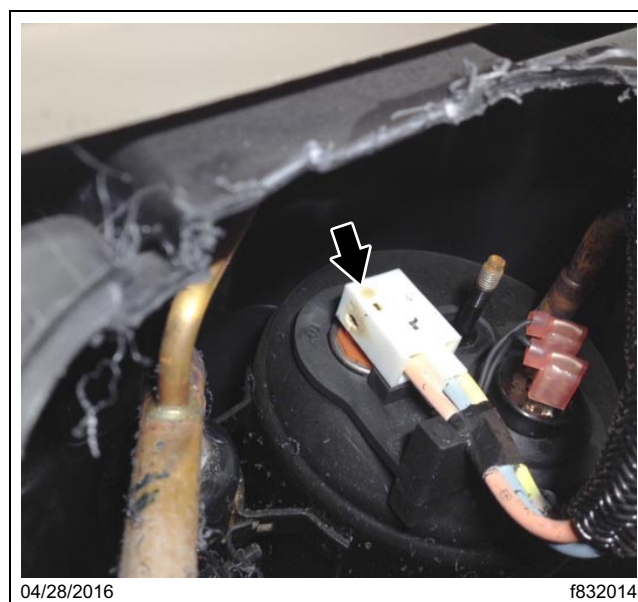

Fig. 8, Yellow Discoloration and Melting of the Block Connector
14. Using a mirror as needed, inspect all sides of the block connector for evidence of heat damage such as discoloration and/or melting. See **Fig. 8**.